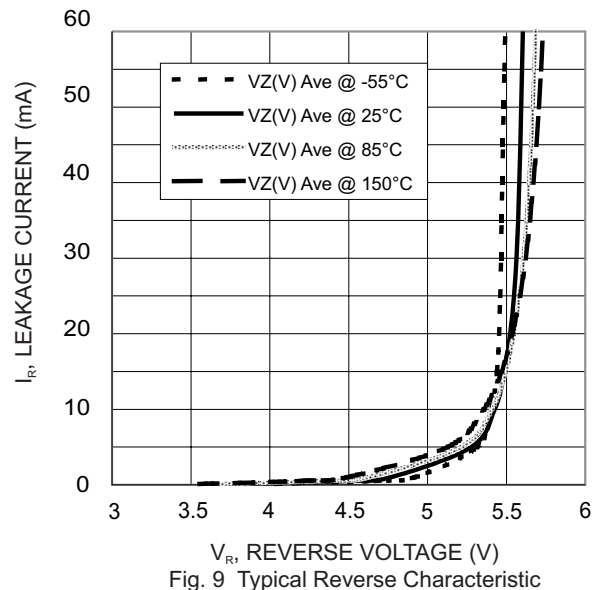

Fig. 9 Typical Reverse Characteristic
e.g. If $I_{pp}=1A$, $V_{CL} = V_z + R_d \cdot I_{pp} = 5.6 \text{ V (from fig. 9)} + 1A \cdot 0.115 \text{ Ohm} = (5.6 + 0.115)V = 5.715 \text{ V}$ (close to actual measured Value)